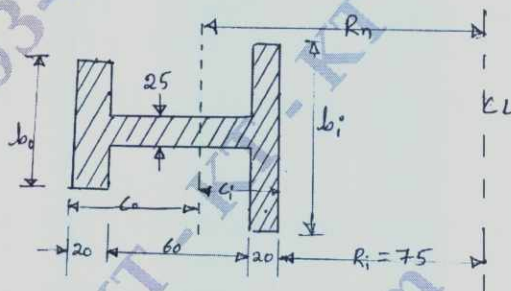

Fig. Q1 (a)
- 1 a. Determine the dimensions of I-section, as shown in Fig. Q1 (a) in which maximum fiber stresses are numerically equal in pure bending. Given $b_1 + b_0 = 120$ mm (12 Marks)